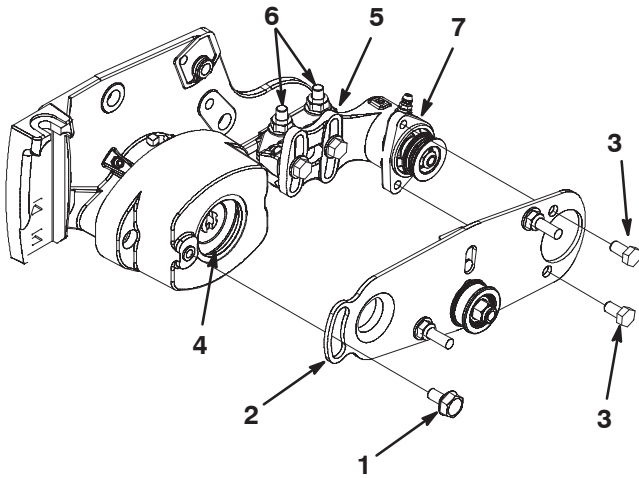

Figure 11
10. Apply a coating of grease to the inner diameter of the grommet in the bearing housing (Fig. 11).
11. Loosen but do not remove the bolts securing the roller brush bearing housing to the roller brush mounting bracket (Fig. 11).
12. Install the roller brush pivot plate (Fig. 11). When the protrusion on the pivot plate is inserted into the grommet in the bearing housing, make sure that the grommet stays properly seated in the housing.
13. Apply 242 Loctite (blue) to the (2) 5/16 x 5/8 inch capscrews and use them to mount the brush plate to the roller brush bearing housing (Fig. 11). Torque the capscrews to 15–19 ft-lb.
- Loosen the (2) flange locknuts securing the roller brush mounting bracket to the cutting unit side plate (Fig. 11).
- Rotate the roller brush bearing housing until the brush plate is parallel to the cutting unit side plate (Fig. 11).
- Tighten the (2) flange locknuts securing the roller brush mounting bracket to the cutting unit side plate (Fig. 11).
15. Apply 242 Loctite (blue) to the shoulder bolt (Fig. 11). Mount the brush plate to the roller brush housing with the shoulder bolt. (Fig. 11). Torque the bolt to 15–19 ft-lb.